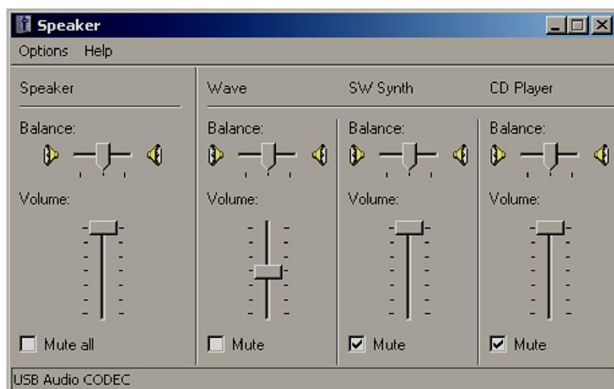

Figure 3 "Volume Control Panel"
- The volume control panel will now open. Set the "Speaker" control (far left control) to 100% max volume, and set the "Wave" control to 50%. Note that the Speaker and Wave controls should NOT be muted. All other controls can be. Your volume control panel should now look similar to the one shown below in Figure 3: